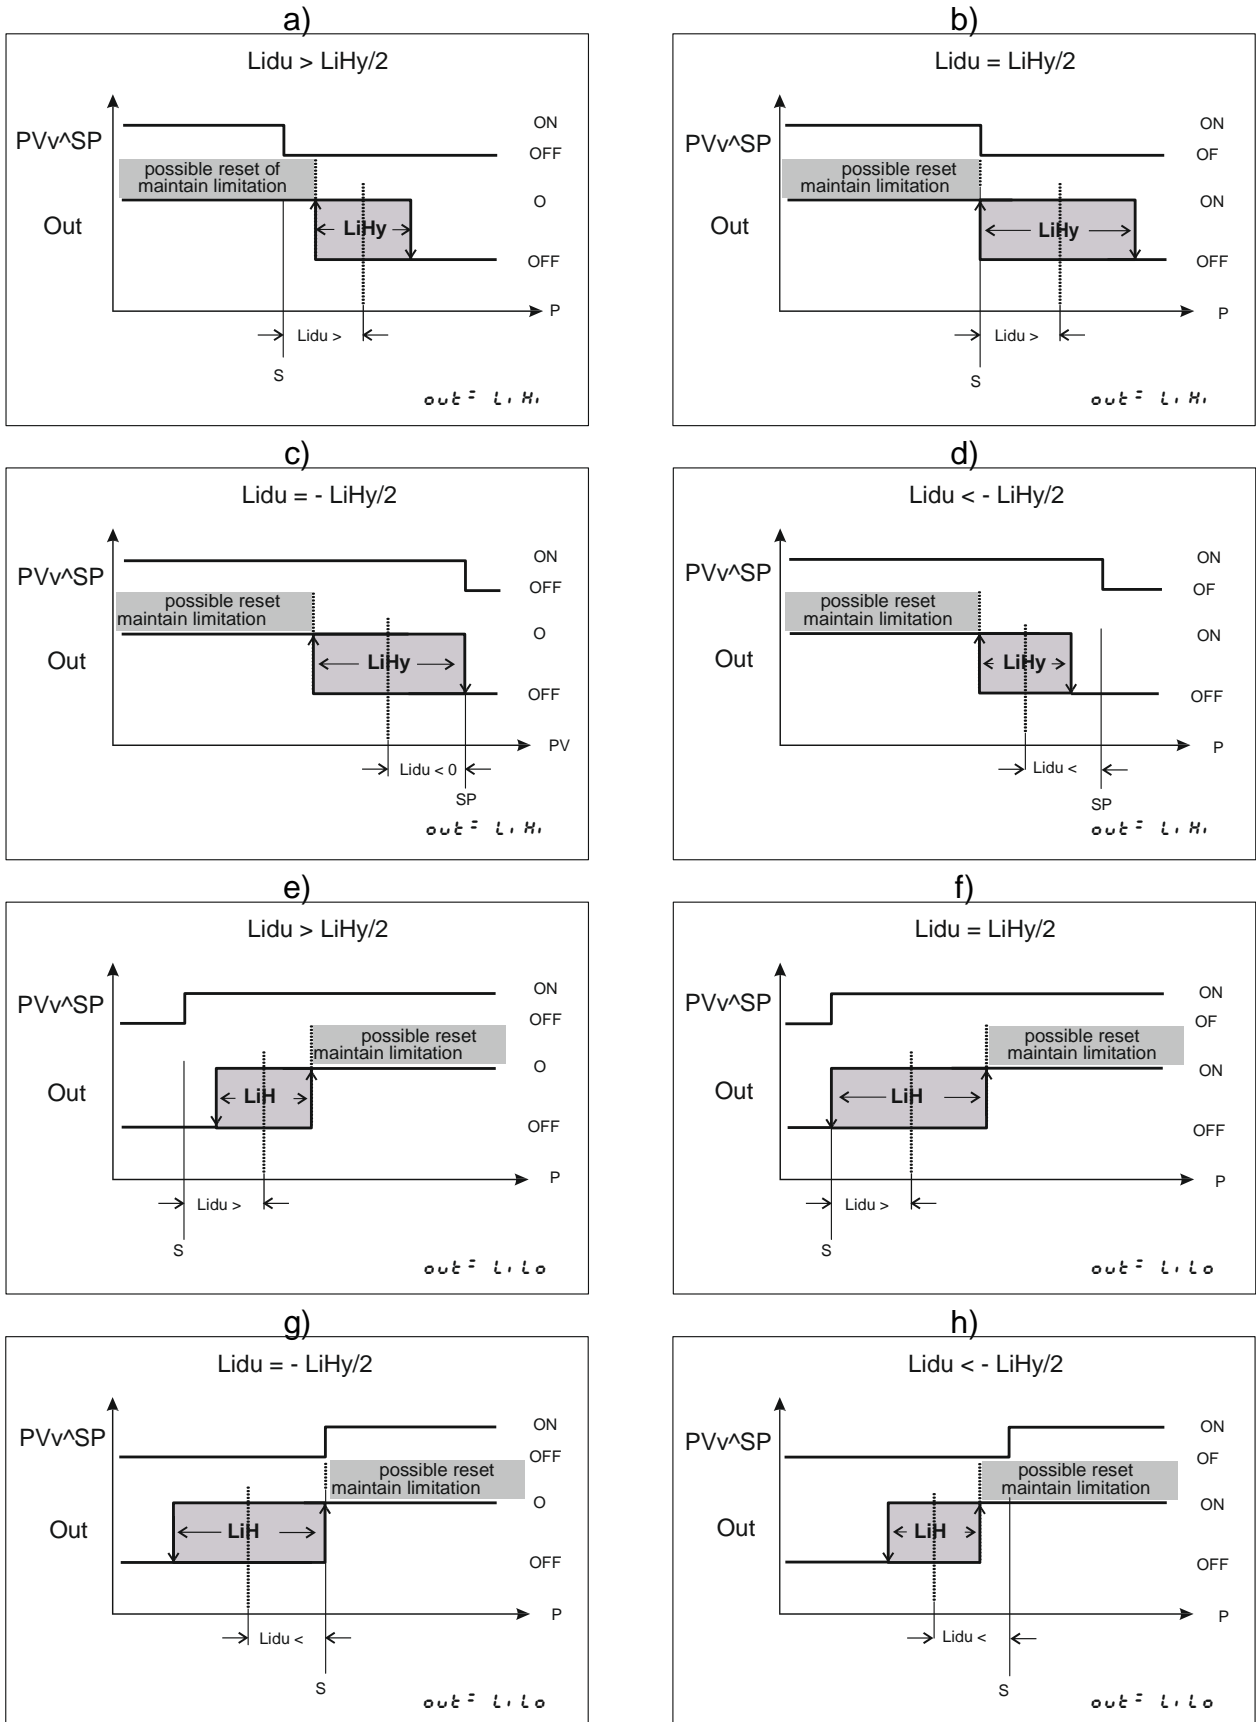

Fig.13 Working modes of the limiter output
- temperature limiter conditions are met, i.e. the temperature limit is exceeded (see fig. 13) OR
- temperature limiter conditions have ceased to exist, i.e. the temperature limit is not exceeded (see fig. 13) AND
To configure the output of the limiter, set the **out** parameter to one of the available limitation types (**Li.H** or **Li.Lo**). Both types of limitation are shown in Figure 13.
You can set limitation status lock, that is saving the output status (disable- OFF) and OUT indicators status (enabled) and FAULT (enabled) when limiting conditions are no longer present (parameter $L.Lt = on$). Reset of limitation maintaining can be done by simultaneously pressing buttons \square and \square for about 2 seconds in normal operation. Reset of limitation maintaining is only possible after the limitation conditions are no longer present, see Fig. 13. The **FAULT** indicator turns off, **OUT** indicator turns on and the output is enabled (ON status at the output).